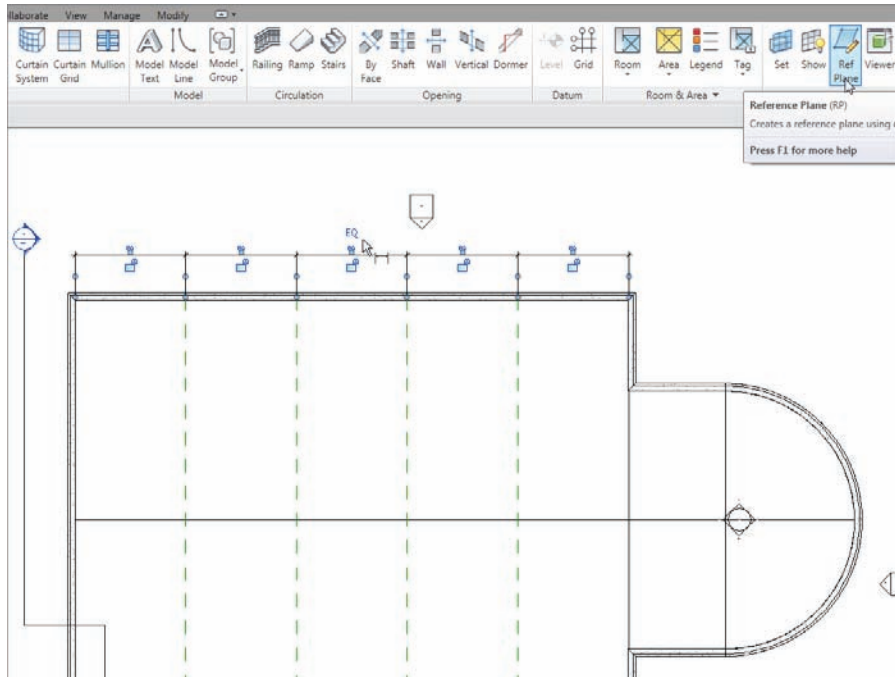

FIGURE 7.10 Add a dimension string to the reference planes shown here.
10. Press Esc twice or click Modify. Then, on the Home tab, click Ref Plane, as shown at the top right of Figure 7.10.
11. Draw four reference planes spaced approximately the same as in Figure 7.10.
13. Add a dimension string starting at the exterior wall to the left and ending at the exterior wall to the right, as shown in Figure 7.10.